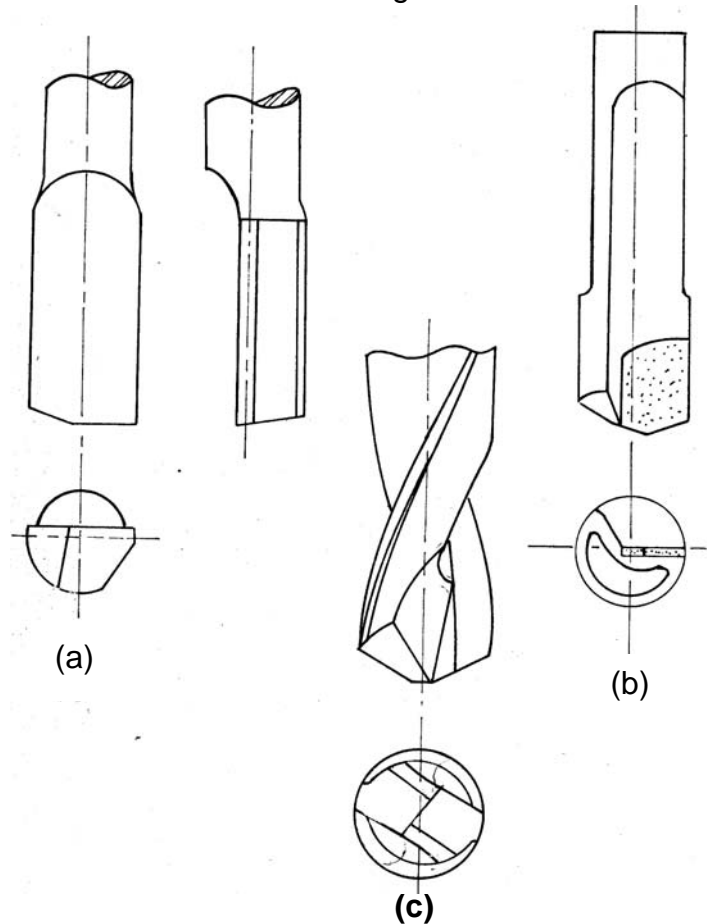

Fig. 4.2.13 Schematic views of (a) half round drill, (b) gun drill and (c) crank shaft drill
- △ Half round drill, gun drill and crank shaft drill (for making oil holes) – shown in Fig. 4.2.13